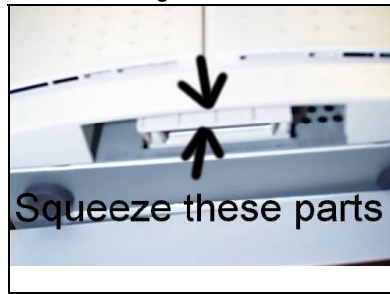

FIGURE IX.1
- 6) Squeeze the plastic piece inside and the outside face of the plastic front cover and this will release the catch inside (see *Figure IX.1*). Pull the cover outward and then up about 3 to 4 inch's. The face is hinged at the top, and as it swings out you will need to push the top down about a quarter of an inch, so you do not snap the plastic hinges. Once off, set the front cover off to one side, inside face up, and use it to hold all screws and parts that you remove from the computer.